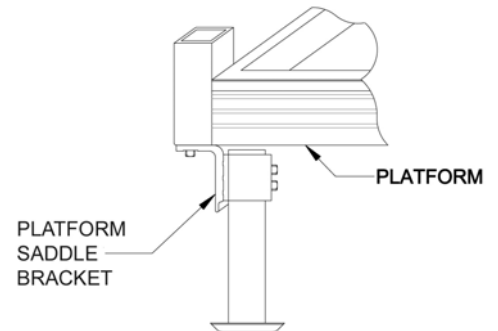

FIG 7
- iv) Slide the platform saddle brackets into position (one end of the bracket will slide into the groove). **NOTE:** If there are space limitations, the saddle brackets can be installed under the platform as shown in FIG 7 (if necessary, support tubes can be cut to fit).